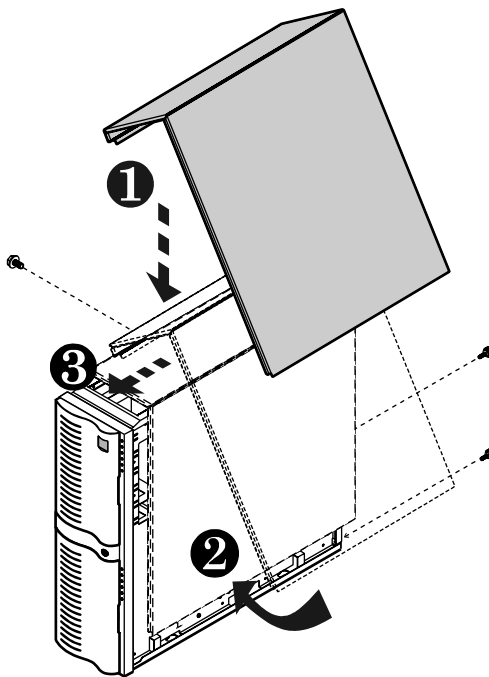

Figure 5: Reinstalling the Wrap-Around Panel
1. Hold the wrap-around panel at a slight angle over the chassis as shown in Figure 5.